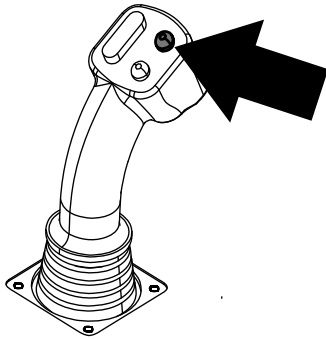
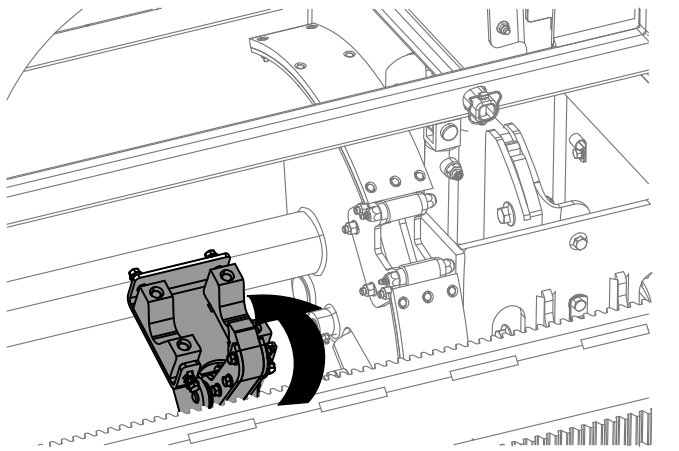

Figure 12
Figure 13
6. Hold the upper button on the joystick to grip the pipe (Figure 12 and Figure 13) and release the button.